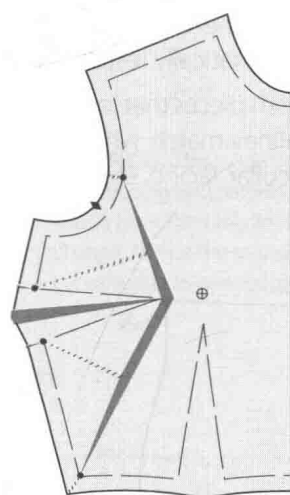

FIGURE 6.31f
8. Spread or overlap the cut edge in the required direction and amount. Open or colored space indicates an increase in size—spread. Diagonal lines indicate a decrease in size—overlap (see Figure 6.31f).